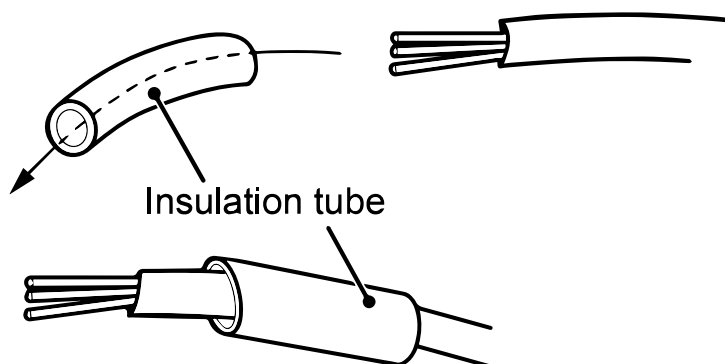

Fig. 2.30
For all terminal wiring (Refer to **Fig. 2.30**):
5. Lead the thermostat wire and power cord through the insulation tube, as shown in **Fig. 2.30**.